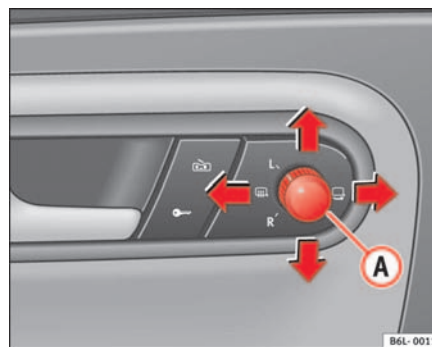

Fig. 70 Exterior mirror control
1. Turn knob ⇒ **fig. 70** to position **L (left exterior mirror)**.
- Turn the control to the demisting position  ⇒ **fig. 70**. ▶
- Turn the control ⇒ page 100, fig. 70 to position  to fold in the exterior mirrors. You should always fold in the exterior mirrors if you are driving through an automatic car wash. This will help prevent damage.